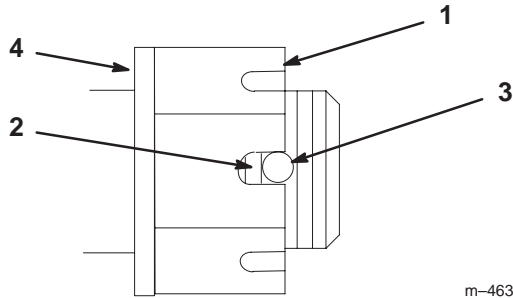

Figure 43
3. Torque slotted nut to 125 ft-lbs (169.5 N•m) (Fig. 43).
4. Check the distance from bottom of slot in nut to inside edge of hole. Two threads or less should be showing (Fig. 43).
5. If more than two threads are showing remove nut and install washer between hub and nut (Fig. 43).
6. Torque the slotted nut to 125 ft–lbs (169.5 N•m) (Fig. 43).
7. Tighten nut until the next set of slots line up with the hole in the shaft (Fig. 43).